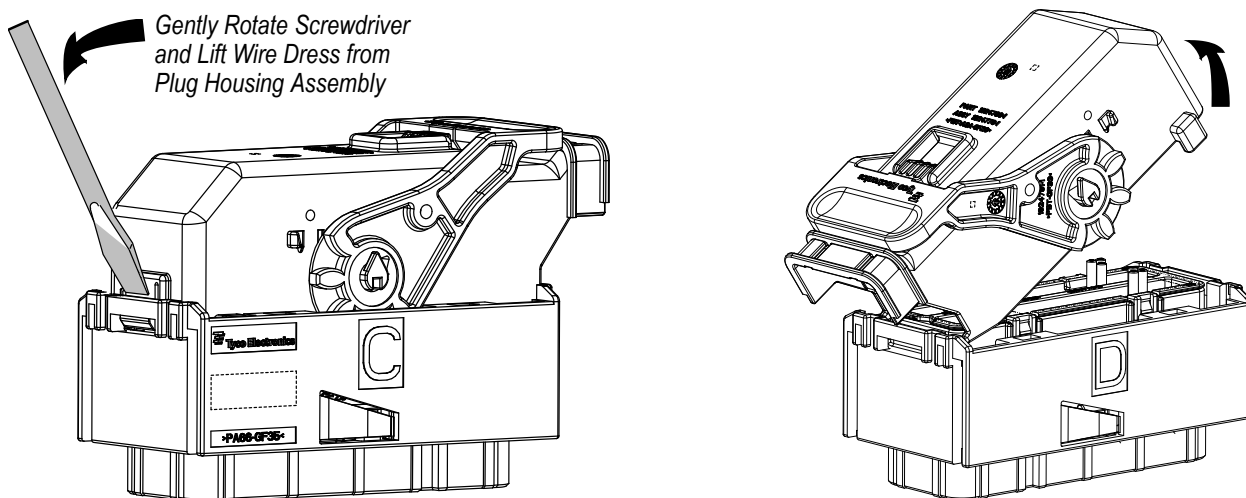

Figure 8
2. Insert screwdriver to release wire dress latch and rotate up to remove wire dress from the plug assembly. See Figure 8.